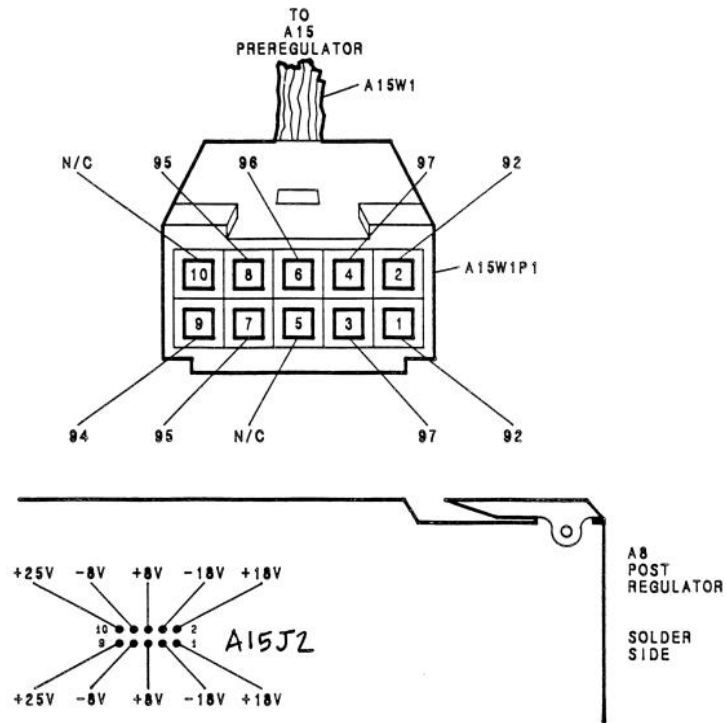

Figure 12. A15W1P1 Connector Detail
The A15 preregulator assembly switching power supply will operate when all external loads are disconnected from it. Figure 12 shows places to probe on the interconnecting cable between the A15 preregulator assembly and the A8 post regulator assembly to measure five of the seven voltages supplied from the A15 preregulator. Table 1 lists nominal voltages at the A8J2 connector, as well as voltages measured under varying operating conditions.
C) There may be a problem on the A15 preregulator assembly. Check the output voltages from the A15 preregulator assembly to the A8 post-regulator assembly, using Figure 12 and Table 2.
B) An undervoltage condition may exist. The input voltage is low or one of the components on the A8 preregulator assembly is bad. Look at output voltages on the A15 preregulator assembly that supplies the voltage in question. Refer to Figure 12 and Table 2. If this voltage is good then suspect the A8 post regulator.